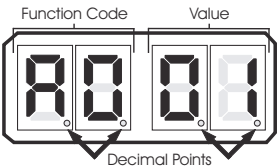

Figure MMC-343-7: Display LED Designations
- A decimal point indicator is located on the bottom right corner of each Display LED. (Figure MMC-343-7: Display LED Designations)